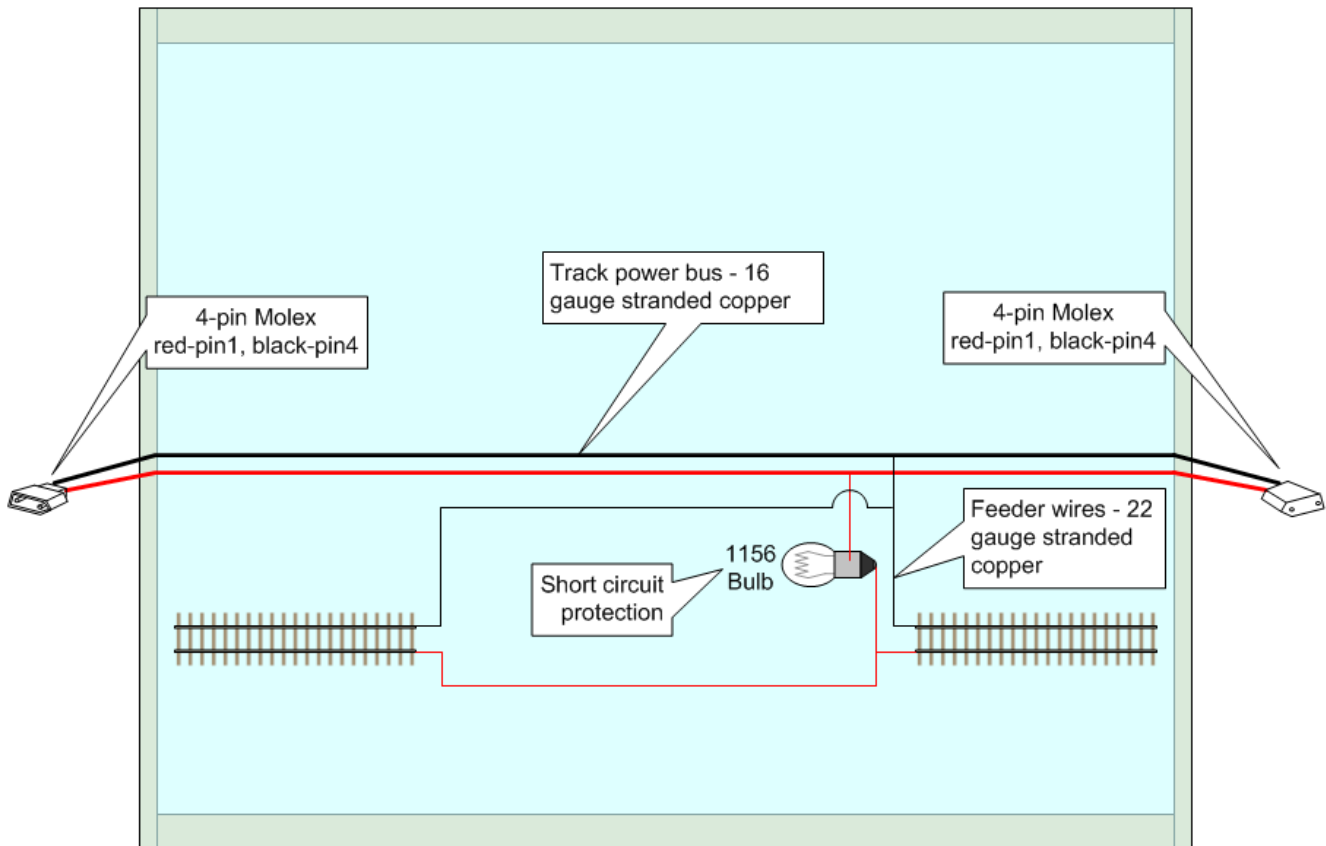

Figure 3
- With the mainline track closest to you (relative to the interfaces, see figure 3), the right-hand Molex will have female pins and the left hand Molex will have male pins.
- Short circuit protection must be inserted between the power bus and the rail feed wires. A tail light bulb (type 1156) wired in series on one of the rail feeds will accomplish this (see Figure 3). DCC circuit breaker products may also be used provided that they have a visual short indicator.